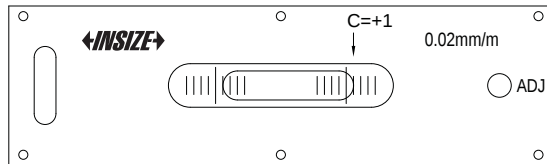

Fig.7
- After the bubble stops moving, read C on the scale (Fig.7).